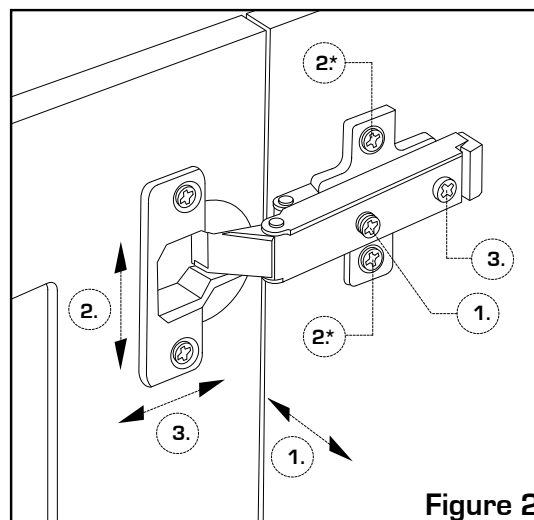

Figure 2
**NOTE:** If your hinges have a Slotted Mounting Plate (as shown in Figure 2): Loosen **Screws 2** one complete turn, raise or lower door, then hold in position while tightening **Screws 2** (on both hinges).